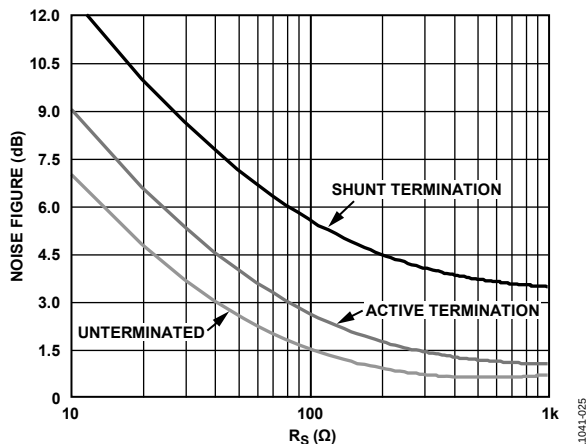
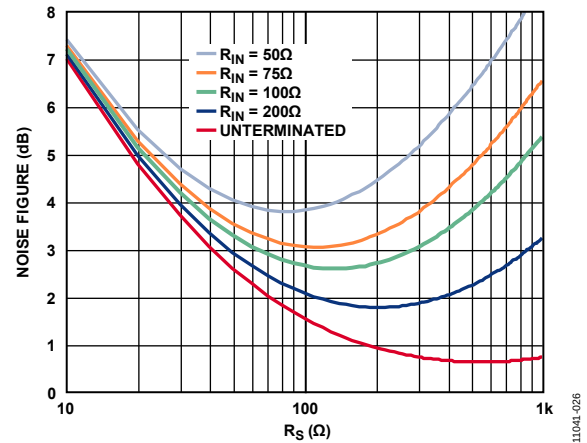

Figure 35. Noise Figure vs. R_S for Shunt Termination, Active Termination Matched, and Untermated Inputs, $V_{GAIN} = 1.6 \text{ V}$
Figure 36. Noise Figure vs. R_S for Various Fixed Values of R_{IN} , Active Termination Matched Inputs, $V_{GAIN} = 1.6 \text{ V}$
The short-circuit noise voltage (input referred noise) is an important limit on system performance. The short-circuit noise voltage for the LNA is 0.78 nV/ $\sqrt{\text{Hz}}$ at a gain of 21.6 dB, including the VGA noise at a VGA postamplifier gain of 27 dB. These measurements, taken without a feedback resistor, provide the basis for calculating the input noise and noise figure (NF) performance. Figure 35 and Figure 36 are simulations of noise figure vs. R_S results with different input configurations and an input referred noise voltage of 2.5 nV/ $\sqrt{\text{Hz}}$ for the VGA. Unterminated ($R_{FB} = \infty$) operation exhibits the lowest equivalent input noise and noise figure. Figure 36 shows the noise figure vs. source resistance rising at low R_S —where the LNA voltage noise is large compared to the source noise—and at high R_S due to the noise contribution from R_{FB} . The lowest NF is achieved when R_S matches R_{IN} .
Figure 35 shows the relative noise figure performance. With an LNA gain of 21.6 dB, the input impedance is swept with R_S to preserve the match at each point. The noise figures for a source impedance of 50 Ω are 7 dB, 4 dB, and 2.5 dB for the shunt termination, active termination, and unterminated configurations, respectively. The noise figures for 200 Ω are 4.5 dB, 1.7 dB, and 1 dB, respectively.
Figure 36 shows the noise figure as it relates to R_S for various values of R_{IN} , which is helpful for design purposes.